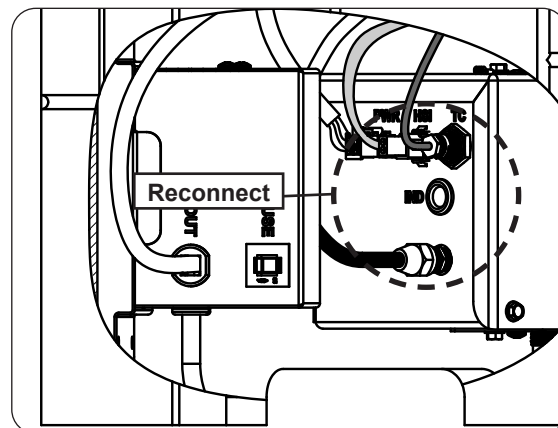

Fig. 29-1 Reconnect pilot line, thermocouple, and hot surface igniter
1. Reconnect the pilot line, thermocouple, and hot surface igniter (coming from the burner assembly) to the control box (see Fig. 29-1).